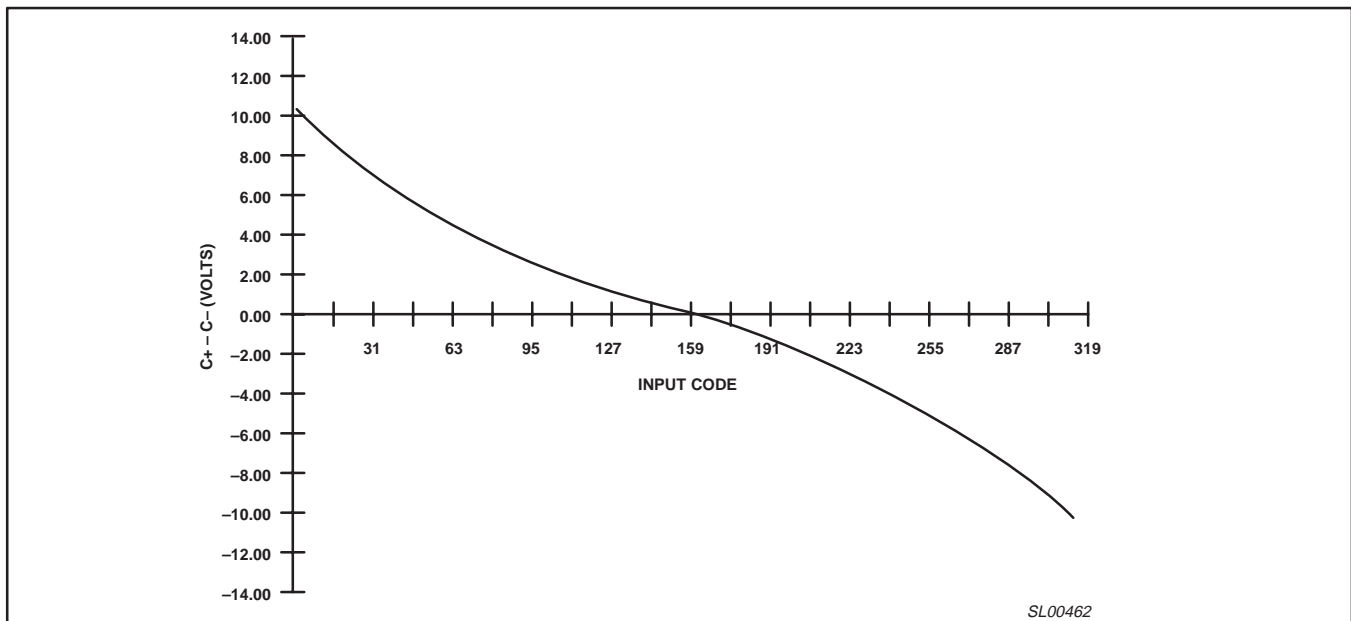
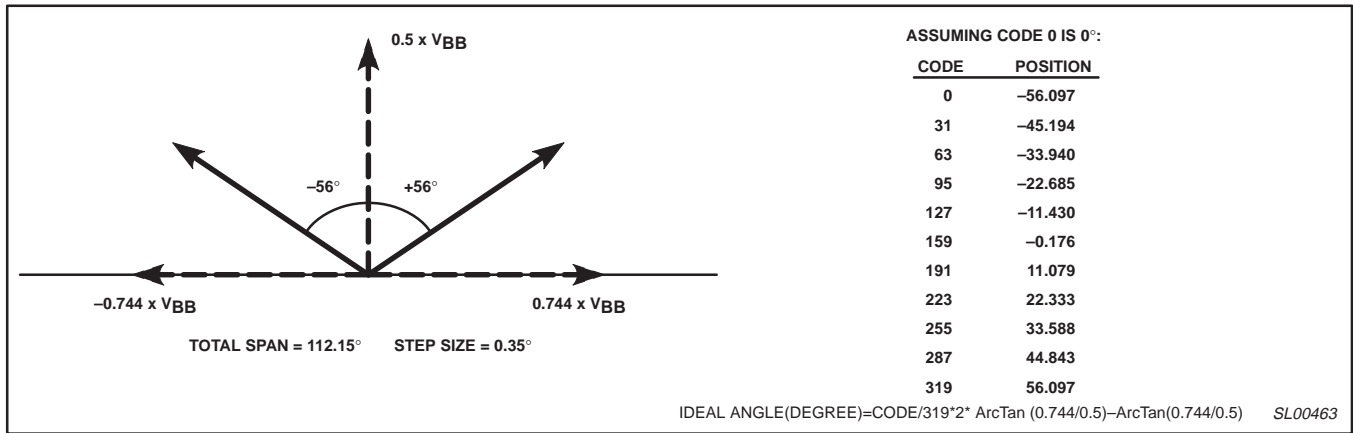

Figure 3. Typical output voltage vs input code ($V_{BB} = 14 V$)
Figure 4. Total span
- In reference to nominal values in Figure 4. (Based on 7+ bit DAC).
The primary function of the SA5777A IC is to generate the transfer function that maps an input code into the correct voltages for linearly controlling the coils of an air-core gauge display (Figure 3). The SA5777A has been implemented using the tangent drive algorithm. Therefore, one coil on each meter will be driven with an output approximating the tangent function, the other coils will be biased at 1/2 V_{BB} . The internal DAC is designed to operate over a 7+ bit (56°) data range. An extended range can be achieved by changing the relationship between the bias coil and the driver coil. As the current through the bias coil is reduced, the full scale deflection is increased. Theoretically, this deflection could approach 180°, but practical limitations of accuracy, resolution, and torque restrict the full scale range to approximately 112° (Figure 4). This full scale range corresponds to a bias coil voltage of 0.5 x V_{BB} and a full scale tangent voltage of 0.744 x V_{BB} . The DAC has been tailored to